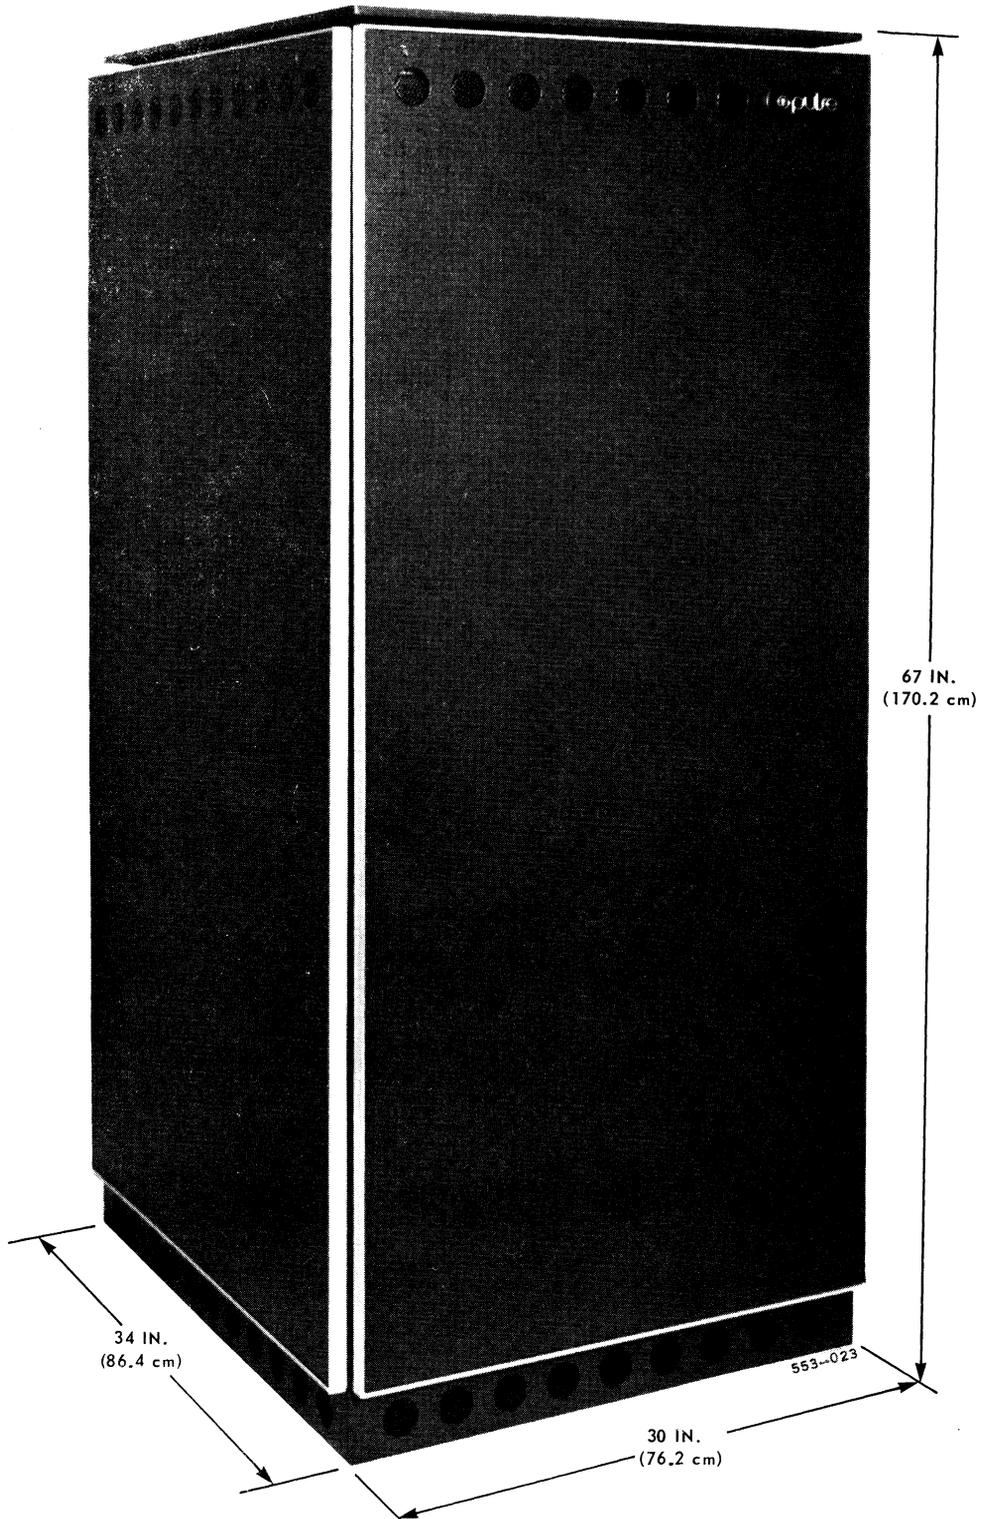

Fig. 1 – PULSE 120 EPABX Cabinet
3.04 The overall dimensions of the PULSE 120 EPABX cabinet are 67 inches (1.70 m) high, 30 inches (0.76 m) wide, and 34 inches (0.86 m) deep. The depth measurement includes the panels. The cabinet is shown in Fig. 1.